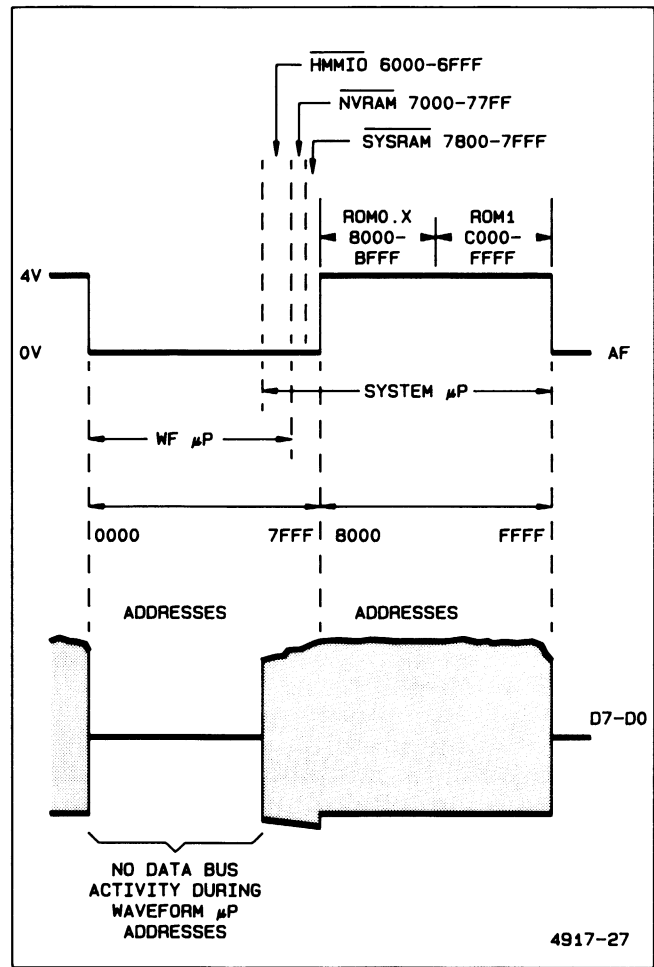

Figure 6-10. System μP data bit D7 in the Bus Isolate mode.
- Check that no data bus activity is occurring during the Waveform  $\mu\text{P}$  address space (see Figure 6-10 to compare against). Faulty address decoding can cause response from an incorrectly addressed device.